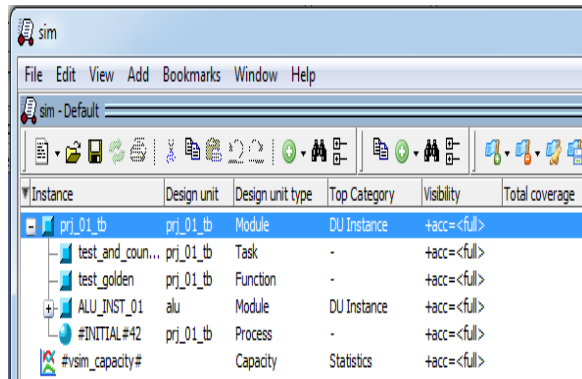

Figure 4.7 Sim window
- 6) After double clicking on test bench file, the new window will appear named 'Sim' and double click on 'prj_01_tb' file as shown in figure 4.7.